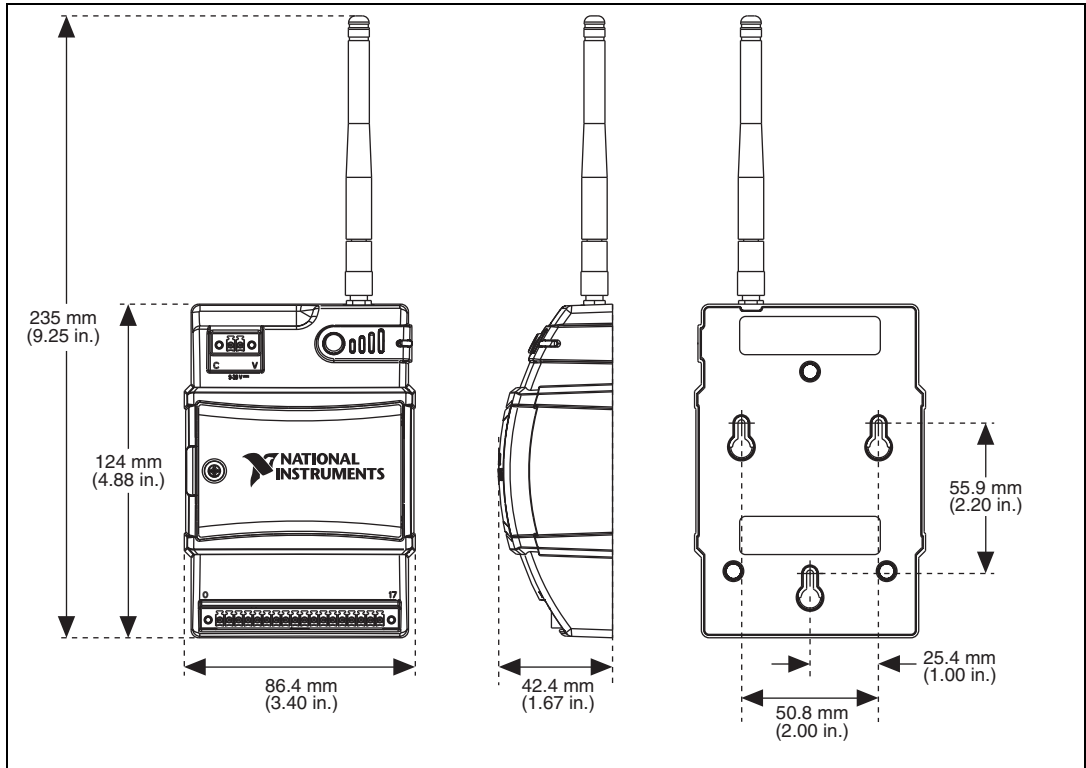

Figure 3. NI WSN-3212 Device Dimensions
Figure 3 shows the NI WSN-3212 device dimensions.
You can mount the NI WSN-3212 on a panel or on a 35 mm DIN rail. For kit accessory ordering information, refer to the NI WSN product page accessory section at ni.com. Before using any of these mounting methods, remove and save the serial number sticker located on the back of the NI WSN-3212 device for future use when configuring your device in software. For the NI WSN-3212 device dimensions, refer to Figure 3.
1. Attach three number 8 or M4 pan head screws in the mounting panel leaving 0.1 in. space under the head of each screw. Refer to Figure 3 for the correct hole pattern and dimensions.